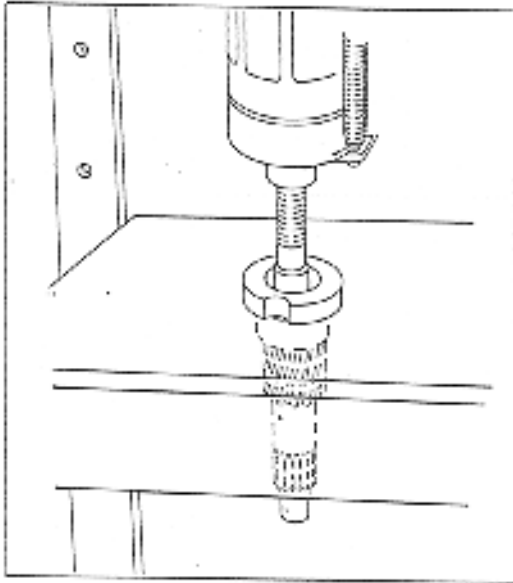

Fig. 32. Extracting Pinion Shaft
c). With a suitable press, extract the pinion shaft out of the bearing retainer. See fig. 32, page 25.